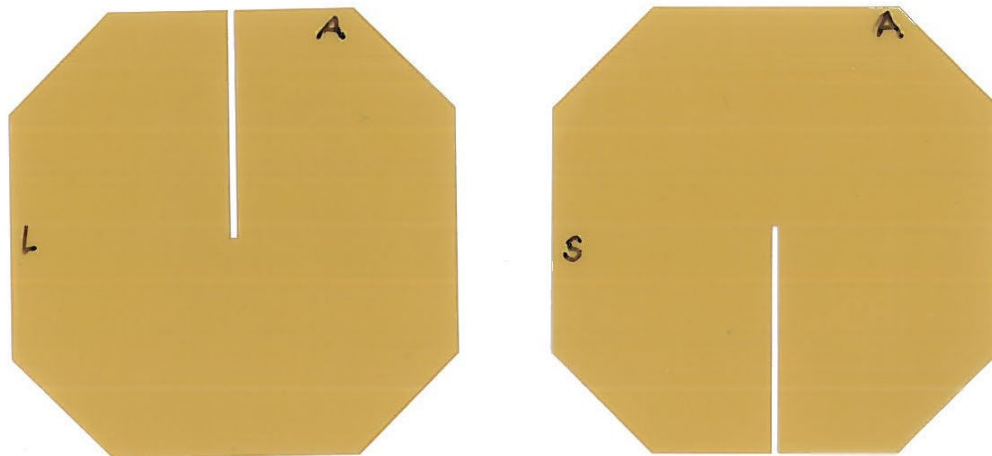

Figure 7-1 Axial (left) and Sagittal (right) Films.
1. Label the film reference edges (A-L for Anterior-Left and A-S for Anterior-Superior) with a fine tip permanent marker (see Figure 7-1). The labels should stay away from the center of the films. The writing will be preserved in the scanned image of the exposed films for identification purposes.